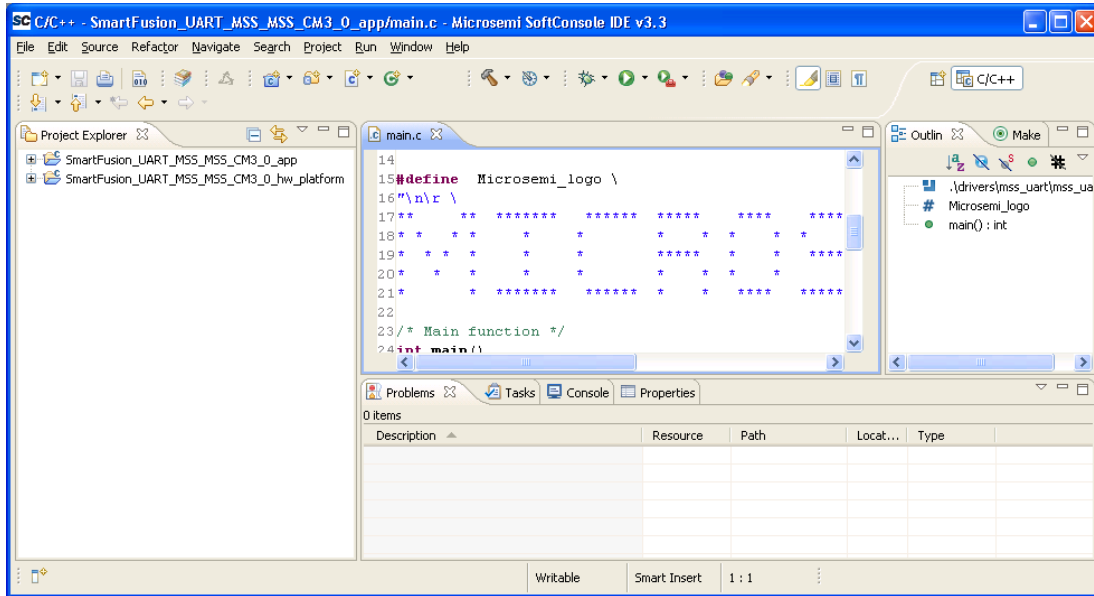

Figure 19 · SoftConsole Workspace
3. The SoftConsole window is displayed, as shown in Figure 19 .